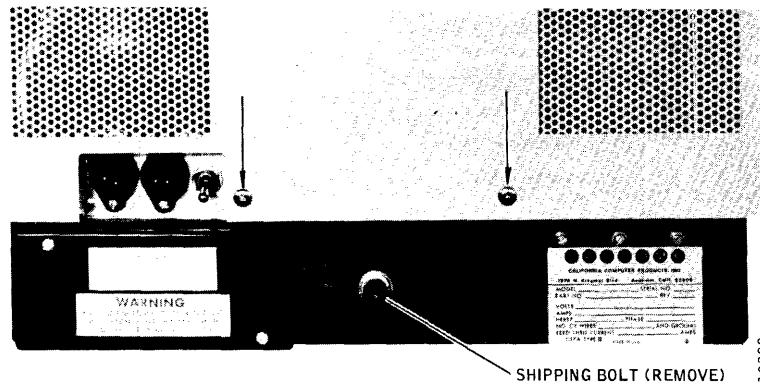

Figure 2-3. Rear Cover Screw Locations
17. A 3/8-inch Allen head shipping bolt (Figure 2-3) located in the center of the unit rear panel locks the unit deck casting to the frame assembly during shipment. Using a 5/16-inch Allen wrench, remove and store the bolt, lockwasher, and flat washer.
2. The rear cover of the unit can be removed by unscrewing two screws at the rear of the cover (Figure 2-3) and then sliding the cover rearward and lifting it up.